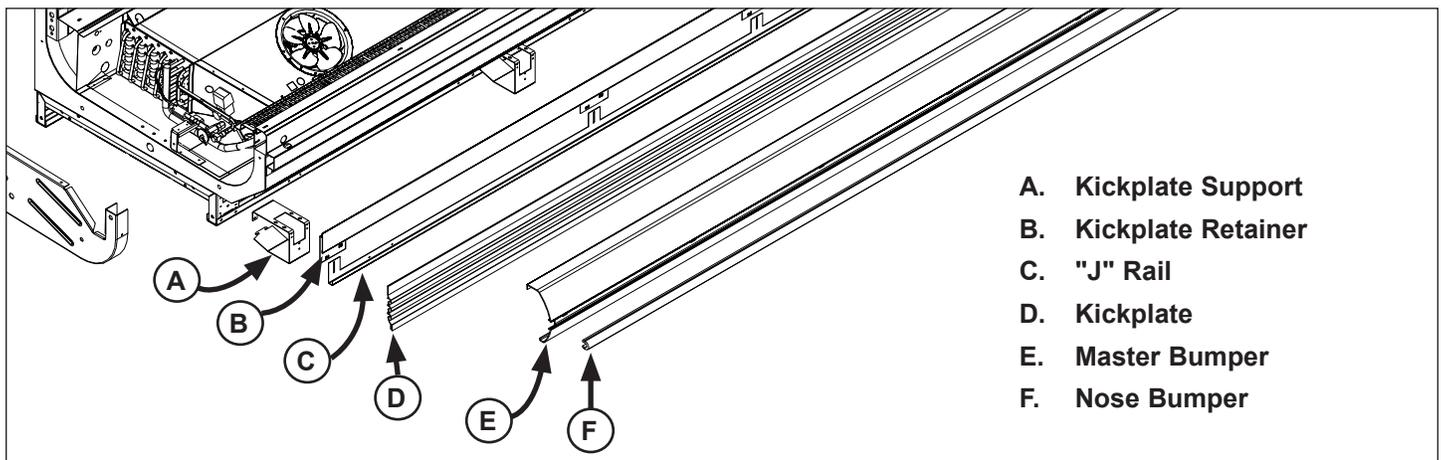

Fig. 9 Front assembly
13. If the case is outfitted with a polymer bumper, insert the nose bumper into the open bumper channel (Fig. 9), up to 96 feet. Hillphoenix recommends leaving an additional 6 inches of nose bumper at the ends to allow for shrinkage during the first 24–48 hours following case start-up—after sufficient time has passed, cut away the
Standard piping penetration is located beneath the case in the front-right area, fully visible in front of the fan plenum. Rear piping penetration is located behind the case in the rear-right area, consisting of a pre-cut access punch-out that exposes the foam material that must be penetrated prior to pipe joining (Fig. 9). Rear top-box option consists of piping enclosed in a foam box that exits at the back-right of the case, near the top.